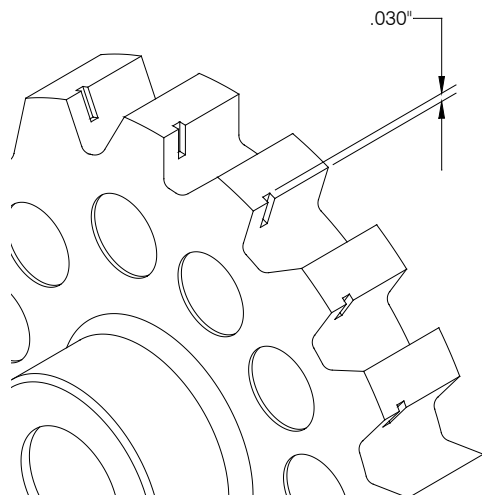

Figure 4-4
1. Check the wear marks on the driving face. Replace the drive sprocket before the wear marks are deeper than 1/32" as shown in Figure 4-4. The outside diameter is also a wearing surface. Do NOT turn around and continue using a worn drive sprocket. A worn drive sprocket will increase wear on the chain chassis.